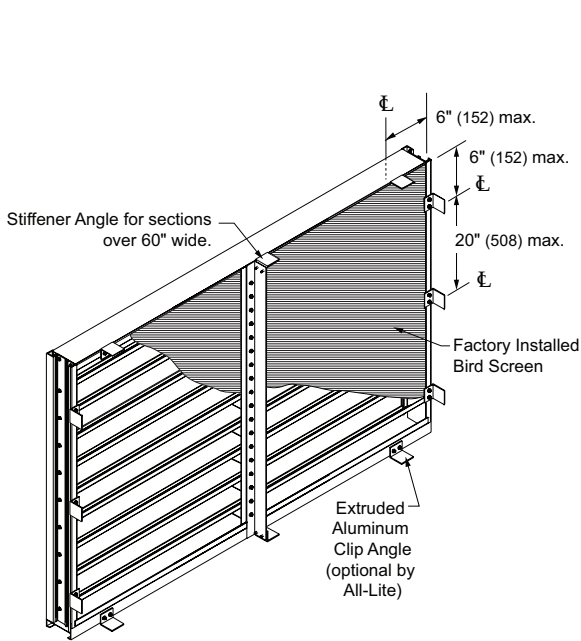

**Fig. 1.1 Sill Flashing
3. Apply caulk to the sill of the opening and firmly set the sill flashing in the caulk. See fig. 1.1.